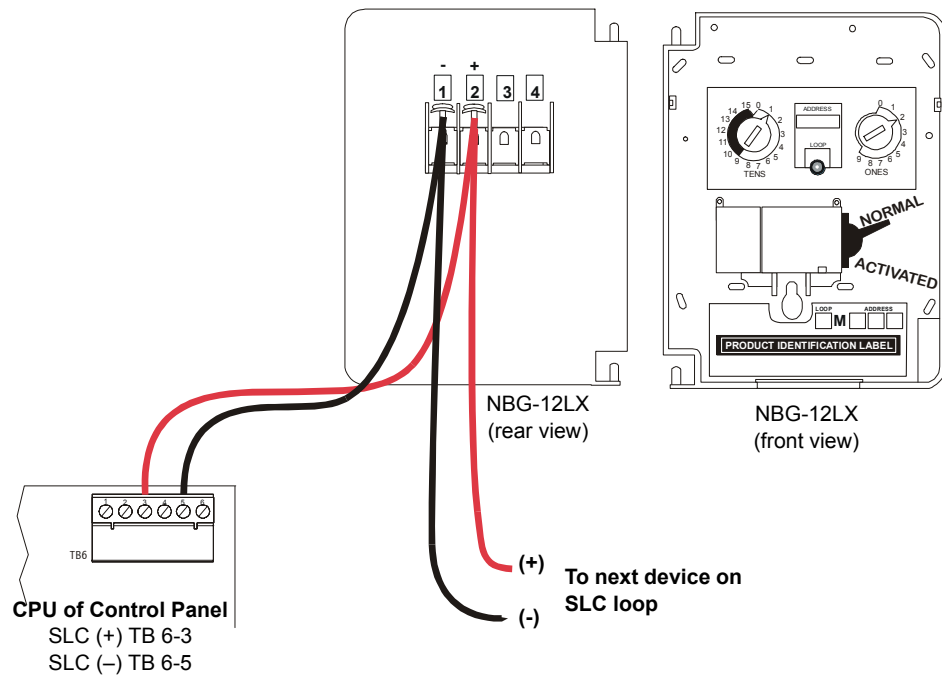

Figure 43 Typical SLC Wiring of an NBG-12LX Pull Station
The NBG-12LX is an addressable manual pull station with a key-lock reset feature. Figure 43 shows typical wiring and provides instructions for setting the SLC address.
2. Connect the NBG-12LX to the CPU as shown in Figure 43.
3. Set the SLC address of the pull station. Rotary switches are located on the interior of the pull station, as shown in Figure 43. The address is set the same way as for control, monitor & relay modules (refer to "Setting an SLC Address for a Module" on page 44). Factory preset is address 00. Record the device address and SLC number on the label inside the pull station.